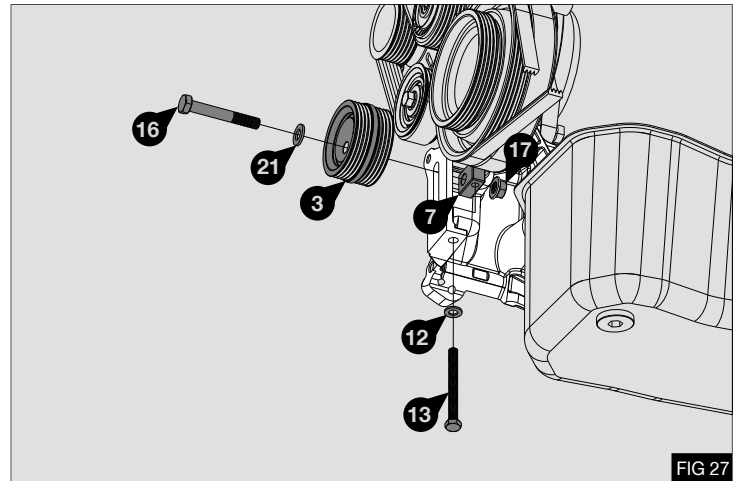

FIG 27
- Assemble tensioner pulley (3) onto mounting bracket (1) using block (7), M8x 80 bolt (13) with M8 washer (12), M10 x 70 bolt (16), M10 flat washer (21) and M10 flange nut (17). Do not tighten at this stage - Fig 27